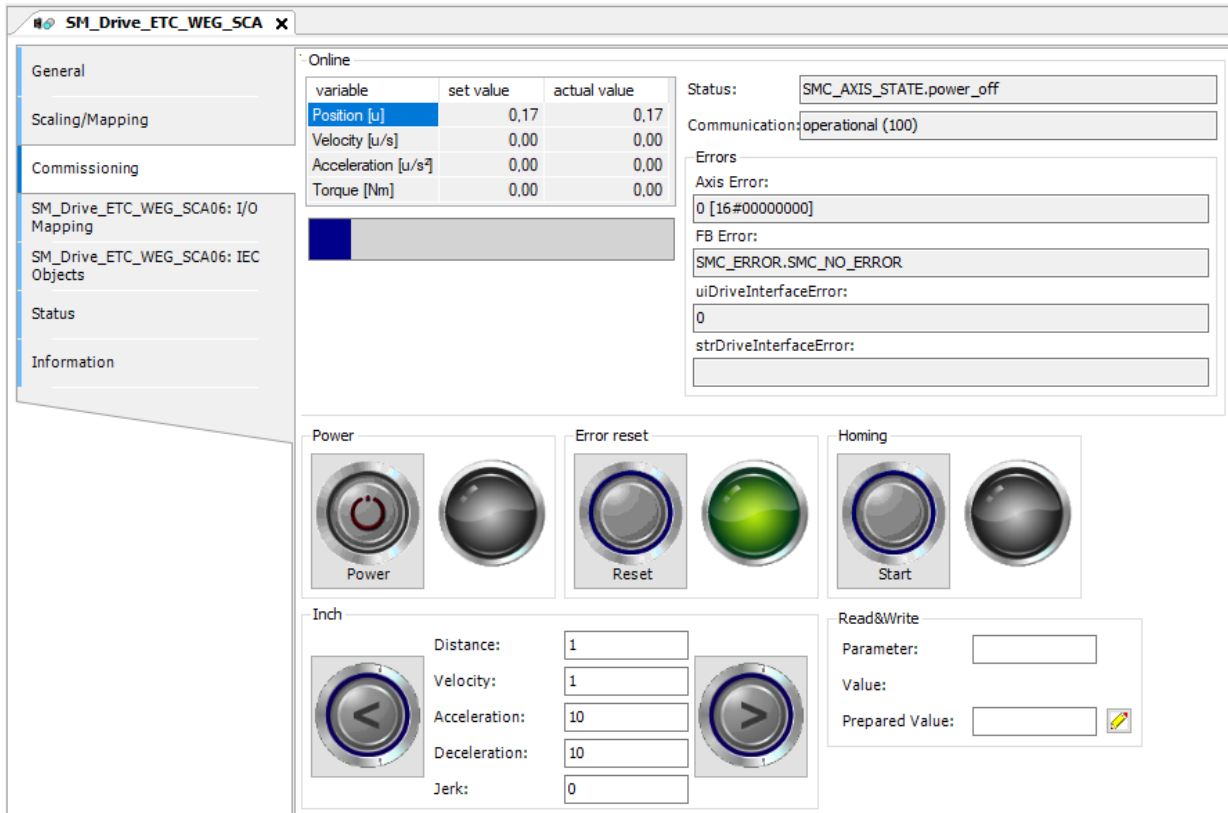

Figure 2.14: Commissioning the SCA06_SoftMotion.
- Open the servomotor settings (**SM_Drive_ETC_WEG_SCA**) and click the **Commissioning** tab. On this tab, in addition to the variables and status of the axis, some buttons are available for activating the servomotor, as shown in Figure 2.14.